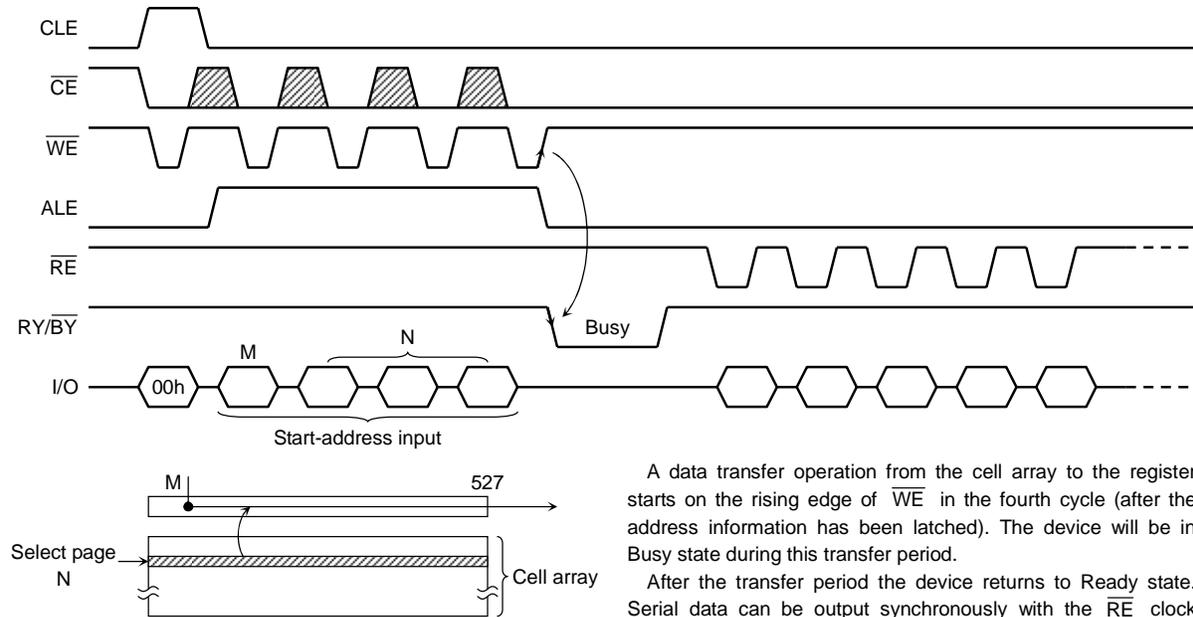

Figure 2. Read mode (1) operation
**Read Mode (1)**
Read mode (1) is set when a 00h command is issued to the Command register. Refer to Figure 2 below for timing details and the block diagram.